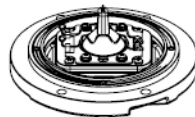

Figure 5-10
- Install the prism pressing bracket and screw the screws (see Figure 5-10).